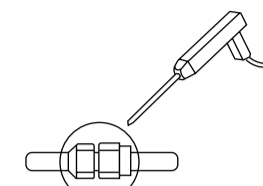

Fig. 5-4
- Leakage checking of refrigerant at the coupling by gas leak detector or soapsuds, as shown in Fig. 5-4.